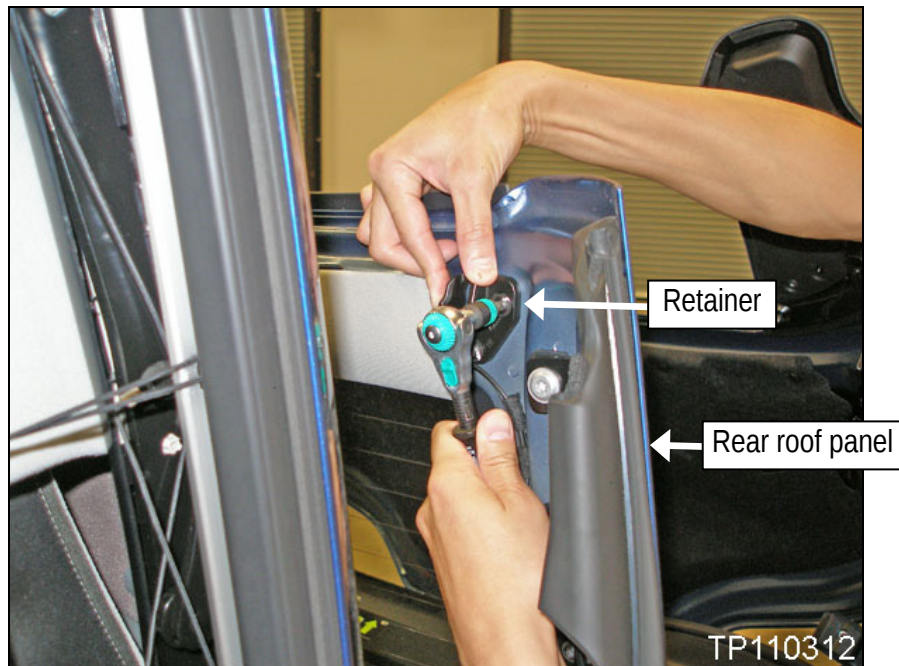

Figure 5c
3. Next, loosen the T-30 Torx screws for both rear roof panel retainers (see Figure 5c).